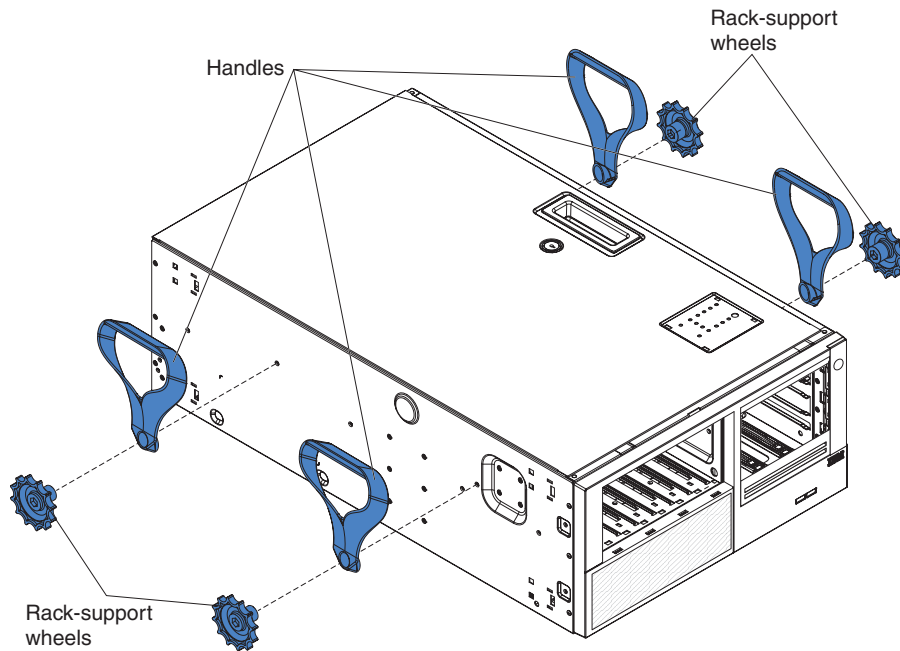

Figure 19. Installing the rack-support wheels
- b. Locate the threaded screw holes on the server that are shown in Figure 19 on page 20.